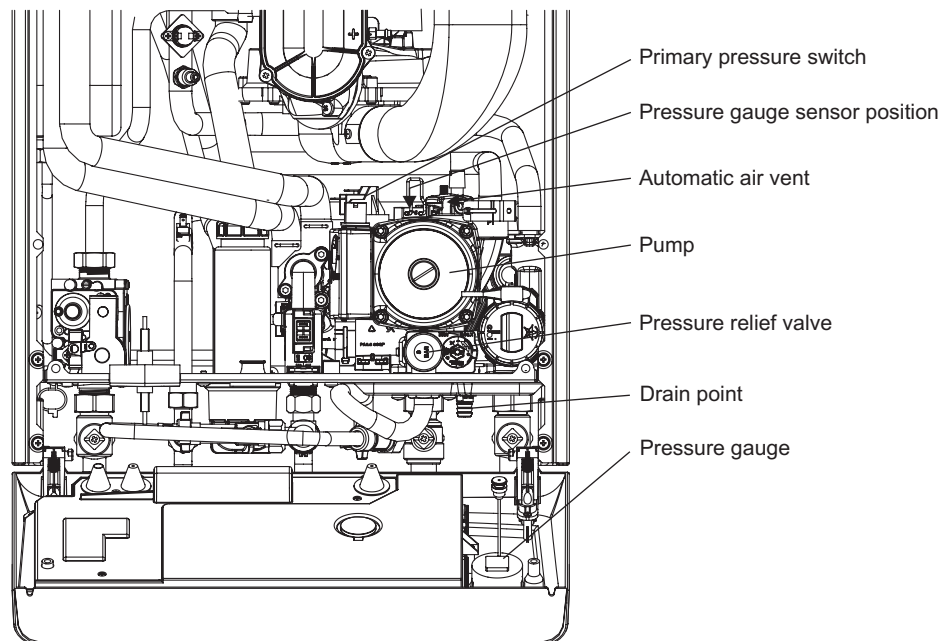

Fig. 34
7.21 PRESSURE GAUGE - Fig. 34
7.23 AUTOMATIC AIR VENT - Fig. 34
7.24 PUMP - Fig. 34
2. Connect the plug to the new head. Ensure the pump is set to maximum (3) and re-assemble in reverse order.
7.25 PRIMARY PRESSURE SWITCH - Fig. 34
7.26 PRESSURE RELIEF VALVE - Fig. 34